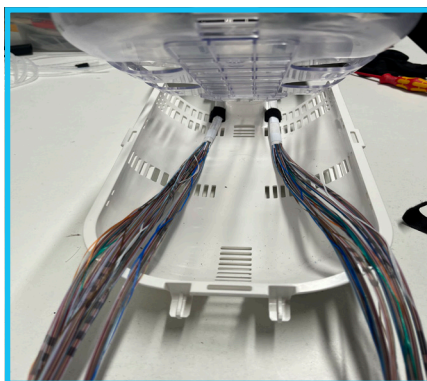

Figure 9.2
2. Lay the water blocking tape section of the cable into the slack basket **[figure 9.2]**.